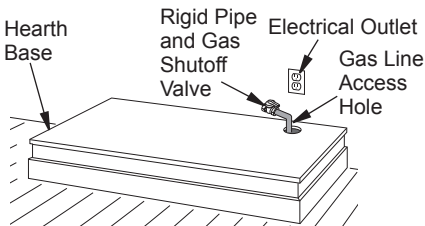

Figure 20 - Placing Hearth Base Accessory Against Wall
2. When installing blower, install a properly grounded, 120 volt three-prong electrical outlet at fireplace location if an outlet is not there. If possible, locate outlet so cabinet mantel will cover it when installed (see Figure 20).
4. Place hearth base accessory against wall at installation location. Cut an access hole in hearth top to run flexible gas line to fireplace (see Figure 20). Make sure to locate access hole so cabinet mantel will cover it when installed. **Note:** You can secure base to floor using wood screws. Countersink screw heads and putty over.